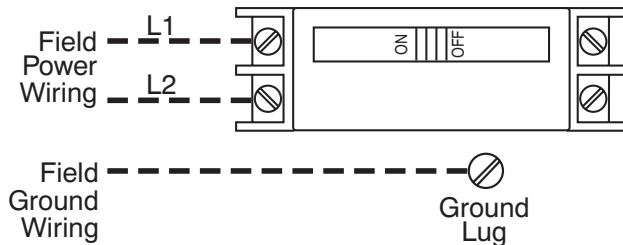

Fig. 7 - 5, 8 10 kW Circuit Breaker and Disconnect Heaters
2. Circuit breaker heaters: (See Fig. 7 and 9.)